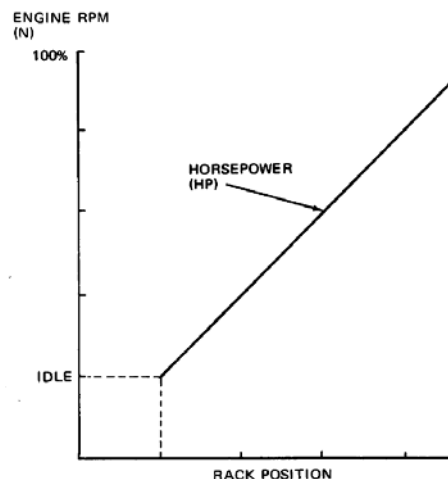

Figure 1-3. Rack Position, Engine RPM, and Horsepower Curve
The function of the pitch control system is to maintain a constant fuel setting for each particular engine speed under varying conditions of load (external forces acting upon the ship). As shown in Figure 1-3, there is only one value of engine fuel setting at any given engine speed (N). At any particular engine speed the fuel setting is controlled by the governor. Compensation for load variations is accomplished by controlling the pitch of the propeller.